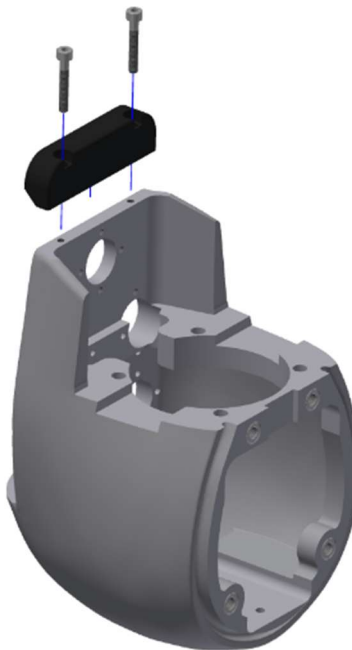

Figure 3-20. Chin guard and skull
3.2.19 Remove the chin guard (474-1411) by removing two M4 X 0.7 X 25 LG. SHCS (Figure 3-20).